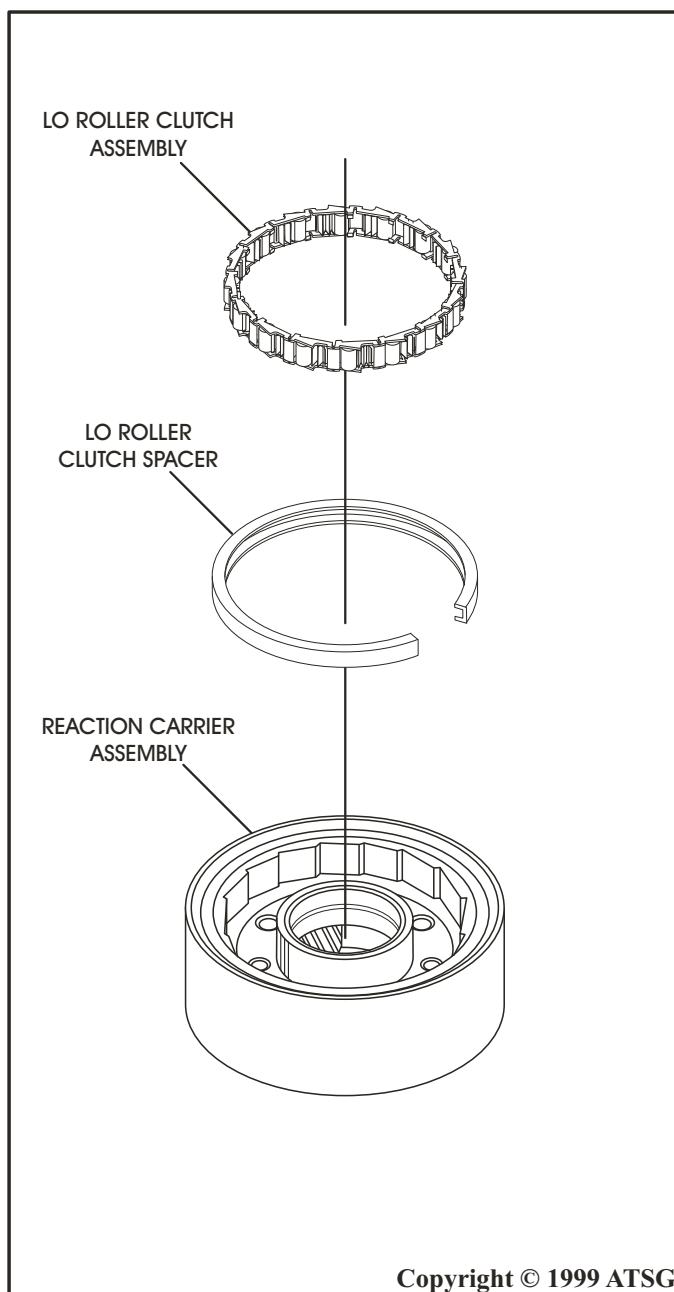

Figure 67
29. If it was removed, install the lo-roller clutch spacer down into the reaction carrier assembly, as shown in Figure 67, ensuring that it is fully seated.
30. Install the lo-roller clutch assembly down into the reaction carrier by aligning the notches in the roller clutch cage with the notches in the reaction carrier (See Figures 67 and 68).